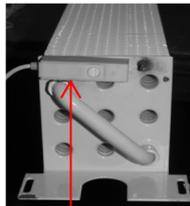

Figure 22:
- Compact convector basic convector type 25/16 (also for types 15/16, 25/21, 15/26, 25/10, 25/13, 25/21, 25/26): see Figure 22